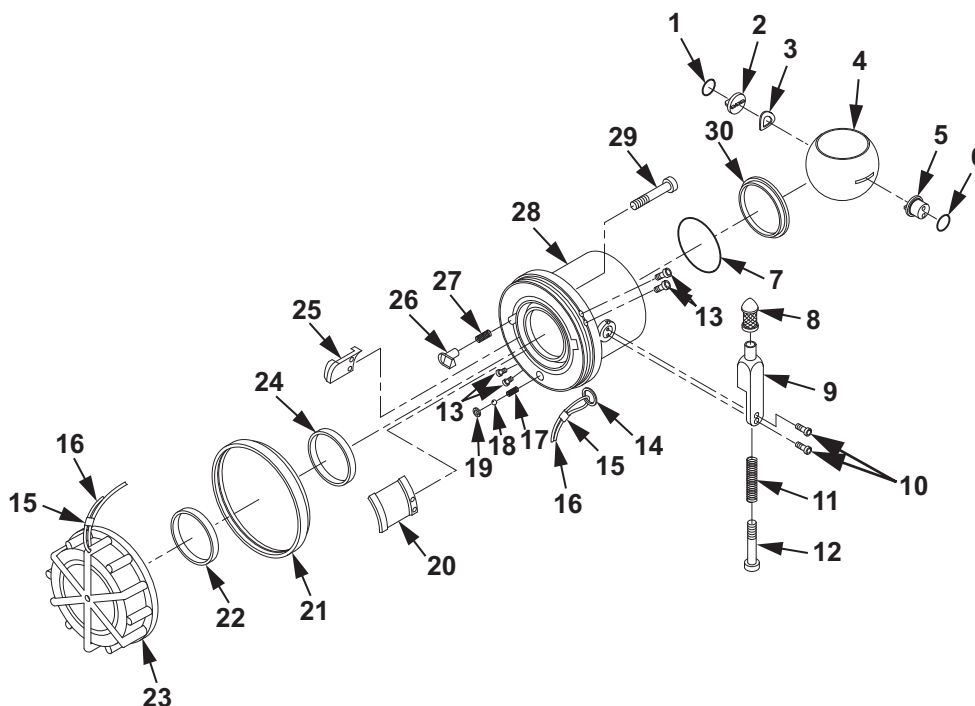

Figure 2. Valved Dry-Break Coupling Disassembly.
- a. Remove screw (Figure 2, Item 12) from control arm (Figure 2, Item 9).
- b. Remove spring (Figure 2, Item 11) from control arm (Figure 2, Item 9).
- c. Remove knob (Figure 2, Item 8) from control arm (Figure 2, Item 9).
10. Remove control arm shaft (Figure 2, Item 5) and O-ring (Figure 2, Item 6) from inside coupling (Figure 2, Item 28).
11. Discard O-ring (Figure 2, Item 6).
12. Remove dust cap (Figure 2, Item 23) from coupling (Figure 2, Item 28).
13. Remove seal (Figure 2, Item 22) from dust cap (Figure 2, Item 23).
14. Discard seal (Figure 2, Item 22).
If it is necessary to replace dust cap (Figure 2, Item 23), perform the following removal steps.
15. Cut cable (Figure 2, Item 16) or remove split ring (Figure 2, Item 14) from coupling (Figure 2, Item 28) and cable (Figure 2, Item 16).
16. Cut cable (Figure 2, Item 16) from dust cap (Figure 2, Item 23).
17. Remove cable (Figure 2, Item 16) and sleeve (Figure 2, Item 15).
18. Remove seal (Figure 2, Item 24) from coupling (Figure 2, Item 28) interface.
19. Discard seal (Figure 2, Item 24).
If it is necessary to replace bumper (Figure 2, Item 21) or lugs (Figure 2, Item 20, 25), perform the following steps.
20. Remove bumper (Figure 2, Item 21) from coupling (Figure 2, Item 28).
21. Remove two screws (Figure 2, Item 13) from coupling (Figure 2, Item 28).
22. Remove lug (Figure 2, Item 20) or lug (Figure 2, Item 25) from coupling (Figure 2, Item 28).
Do not remove spring washer (Figure 2, Item 19), ball bearing (Figure 2, Item 18) or spring (Figure 2, Item 17). If replacement of ball bearing (Figure 2, Item 18) is required, then coupling (Figure 2, Item 28) must be replaced.
If it is necessary to replace lockout pin (Figure 2, Item 26), perform the following removal steps.
23. Remove screw (Figure 2, Item 29) from coupling (Figure 2, Item 28).
24. Remove lockout pin (Figure 2, Item 26) from coupling (Figure 2, Item 28).
25. Remove spring (Figure 2, Item 27) from coupling (Figure 2, Item 28).
If it was necessary to disassemble control arm (Figure 2, Item 9), perform the following assembly steps.